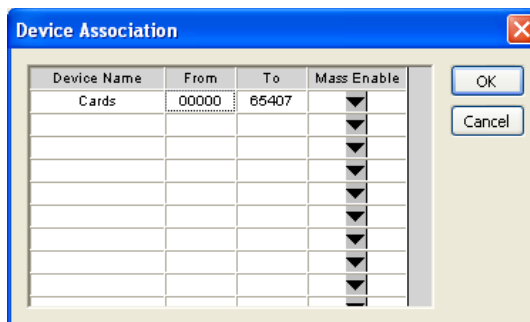

Figure 37
1. From the SYSTEM INFO screen, click the DEVICE ENABLE button on the tool bar. The default Device Association window will appear (Fig 37).